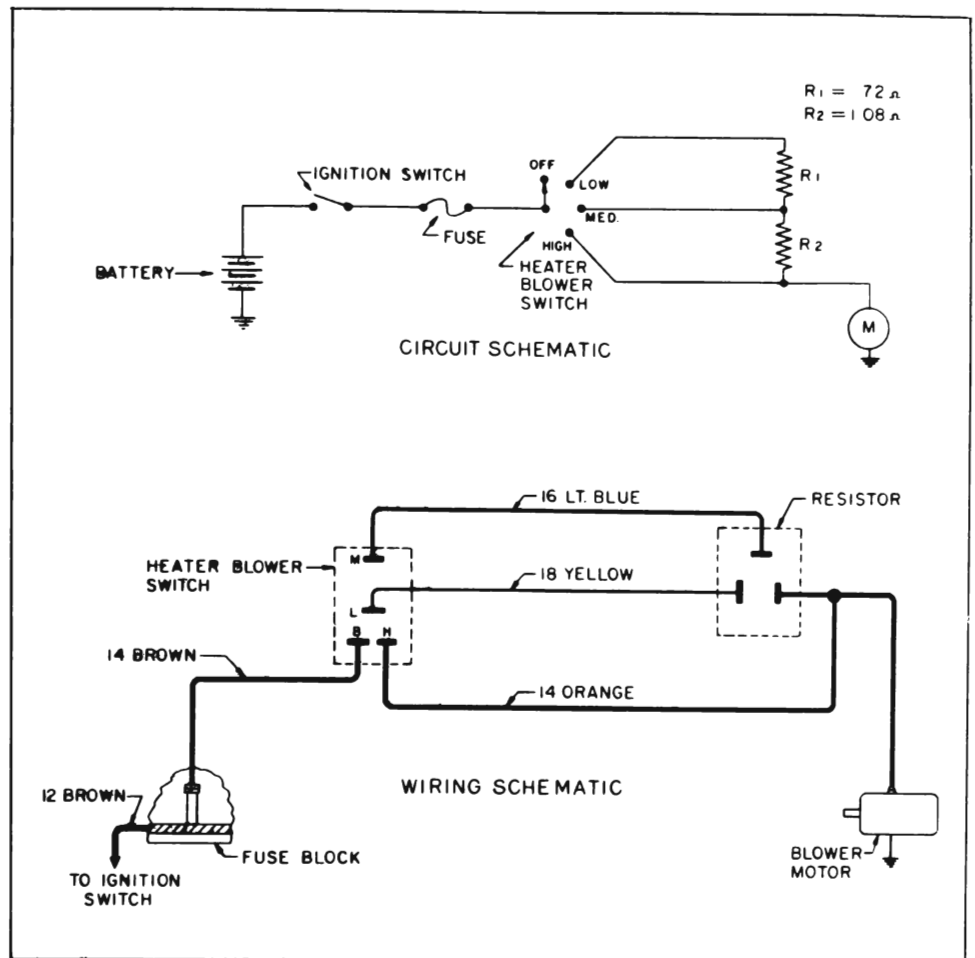

Figure 11-11—Heater System Wiring Diagram and Schematic
1. **Blower and Air Inlet Assembly**—The blower and air inlet assembly draws outside air through the outside air inlet grille located forward of the windshield reveal molding and channels the air into the heater assembly. The operation of the blower motor is controlled by a FAN switch on the heater control. The motor is connected in series with the three position FAN switch and also the blower resistor assembly (see Figure 11-11). A 20 amp fuse, located in the fuse block, is in series between the blower motor and the battery.